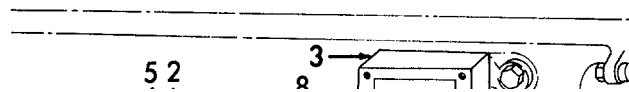

Figure 6-43. Lower (Bed) Lubricating Oil System, Removal.
a. *Removal (Refer to Figure 6-43).*
- (1) Remove oil line (1) from both connectors (2) and allow oil to drain.
- (2) Remove the other oil line (4) from both connectors (2).
- (3) If required, remove four connectors (2) and four gaskets (5). Discard the gaskets (5).
- (4) Remove four screws (6).
- (5) Remove cover (7) and gasket (8). Discard gasket (8).